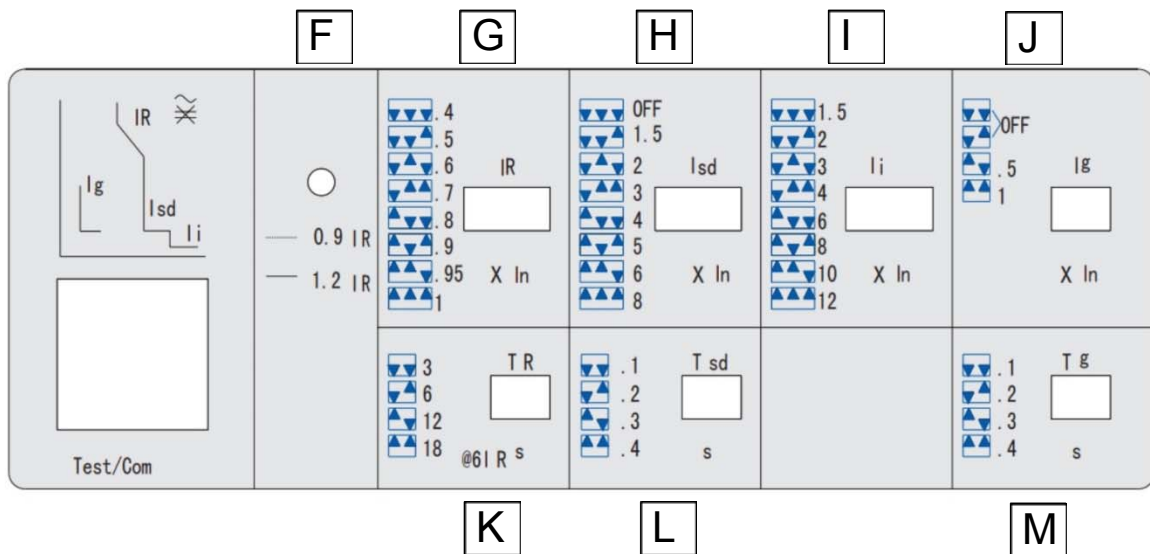

Figure 3. smartPDU 72 main breaker settings panel
A settings panel immediately below the main breaker (see Figure 3) gives status information and lets you adjust the main breaker's settings. Do not change these settings unless you are 100% certain that you understand the implications of doing so. Under most circumstances, the default settings are preferable.
The status LED **F** in Figure 3 indicates the single-phase operating current relative to  $I_R$  (continuous trip current) as follows:
To adjust the trip current settings, slide open the transparent cover below the breaker and set the pins in the DIP-switches shown in Figure 3 as follows:
DIP-switches **G** in Figure 3 set the level of continuous current ( $I_R$ ) that will trip the breaker.
DIP-switches **H** in Figure 3 set the level of short-time current: ( $I_{sd}$ ) that will trip the breaker.
DIP-switches **I** in Figure 3 set the level of instantaneous current: ( $I_i$ ) that will trip the breaker.
DIP-switches **J** in Figure 3 set the level of continuous current on the Neutral line ( $I_g$ ) that will trip the breaker.
DIP-switches **I** in Figure 3 set the duration in seconds (T) of continuous current ( $I_R$ ) that will trip the breaker.
DIP-switches **J** in Figure 3 set the duration in seconds (T) of short-time current ( $I_{sd}$ ) that will trip the breaker.
DIP-switches **K** in Figure 3 set the duration in seconds (T) of current on the Neutral line ( $I_g$ ) that will trip the breaker.